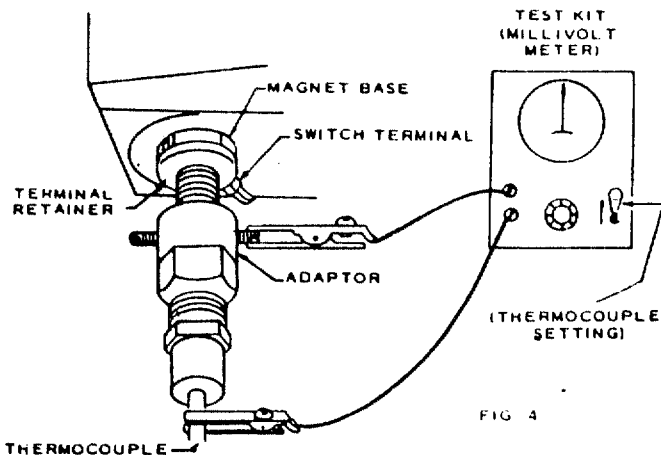

FIG. 4
- IV With adaptor connected as in Figure 4, check as follows:
- (A) Follow standard Lighting Procedure
- (B) With closed circuit output in excess of eight millivolts, blow out pilot
- (C) A good magnet should remain locked up for a drop of five millivolts or more from original stabilized output
- (D) If magnet does not operate properly, replace magnet
- (E) Repeat standard Lighting Procedure